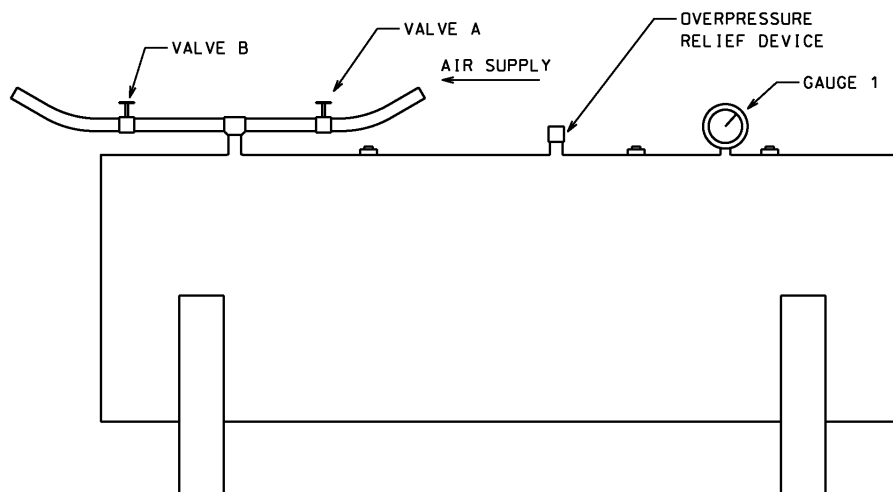

FIGURE 3.2.2.1
3.2.2.1 Install test piping as shown in Figure 3.2.2.1. Temporarily plug, cap or seal off remaining tank openings to hold pressure.
3.2.2.3 Connect regulated test air supply line to test piping as shown in Figure 3.2.2.1.